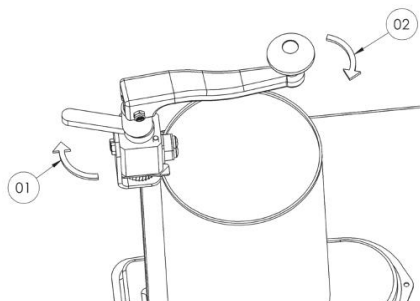

Fig. 10
6. Press the plastic lever with one hand and keep in this position (pos. 01, fig. 10). Turn the crank clockwise using another hand (pos. 02, fig. 10), until opening the can.